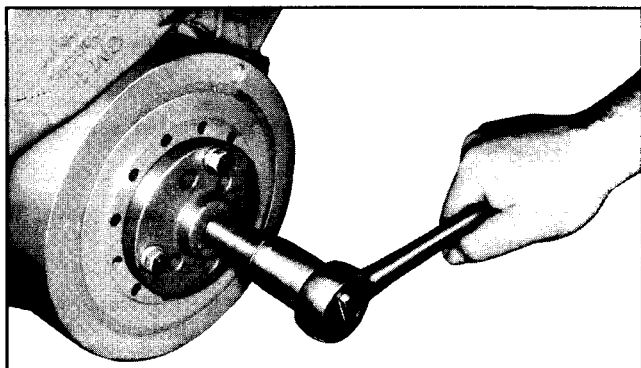

Fig. 6-123 Removing Harmonic Balancer
5. On 307 engines, install tool J-23523 to harmonic balancer and turn puller screw to remove balancer from crankshaft (Fig. 6-123).